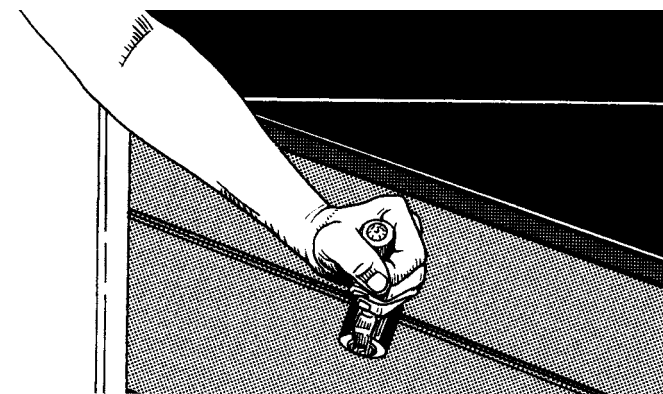

Fig. 5-15
23. After the cement is dried to a tacky feel, using a clean, lint-free cloth and specified solvent, wash/wipe one side of a sheet of the specified inside rubber. Apply the inside rubber to the fabric step area starting at the first ply cut/bias line, proceed to the end of the splice area (Fig. 5-15). Be sure the correct gauge gum and the proper number of layers are used. Roll the rubber thoroughly with a 2 in. (50mm) roller to remove all possible trapped air. The rubber is applied to only one of the stepped ends. Do not remove poly/film from the gum at this time.